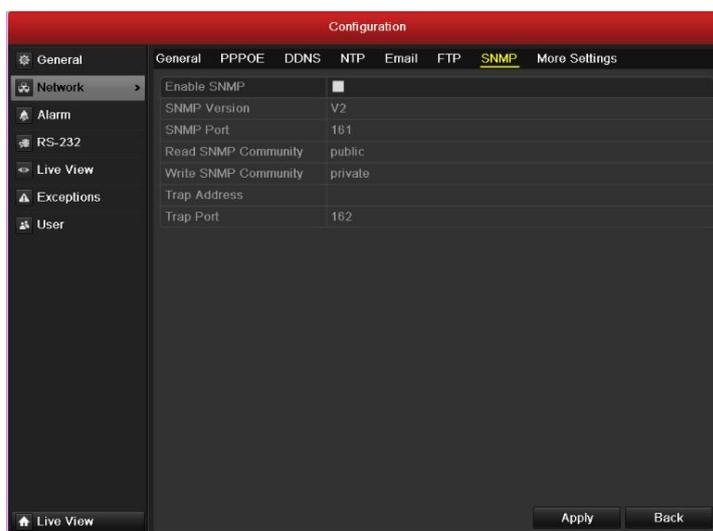

Figure 9.12 SNMP Settings Interface
2. Select the **SNMP** tab to enter the SNMP Settings interface, as shown in Figure 9.12.